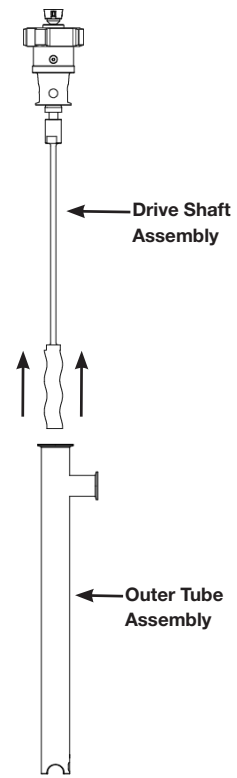

Figure 6
6. Once the Tri-Clamp is removed, remove the outer tube from the drive shaft assembly (see Figure 6).
- Once upper housing and drive shaft/rotor are securely threaded together, insert this assembly into the outer tube (see Figure 6, page 4).